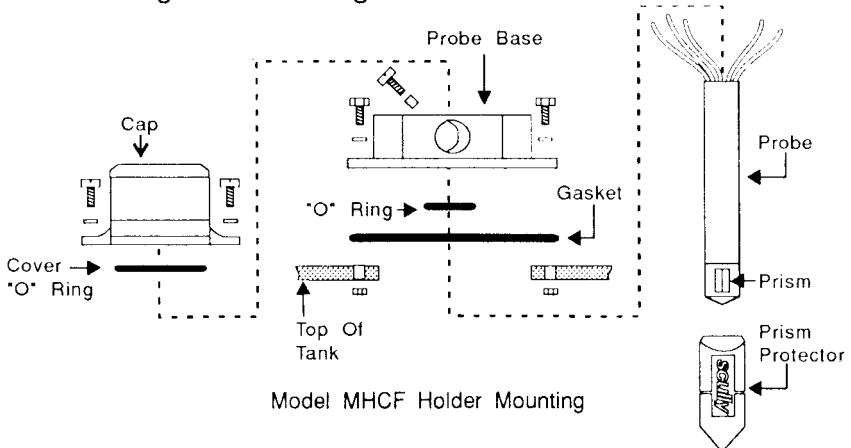

Figure 3.6 The Flanged Holder Mounting Technique
1. Install the gasket between the flange on the probe holder base and the outside of the mounting surface. Use $\frac{1}{4}$ -20 bolts, nuts and lock washers as required for either the four (4) mounting holes on the flange or for the six (6) mounting holes, depending on the pattern used. Tighten the bolts evenly so that the gasket is uniformly compressed. To prevent damage to the gasket, don't over tighten the mounting bolts. See Figure 3.6.